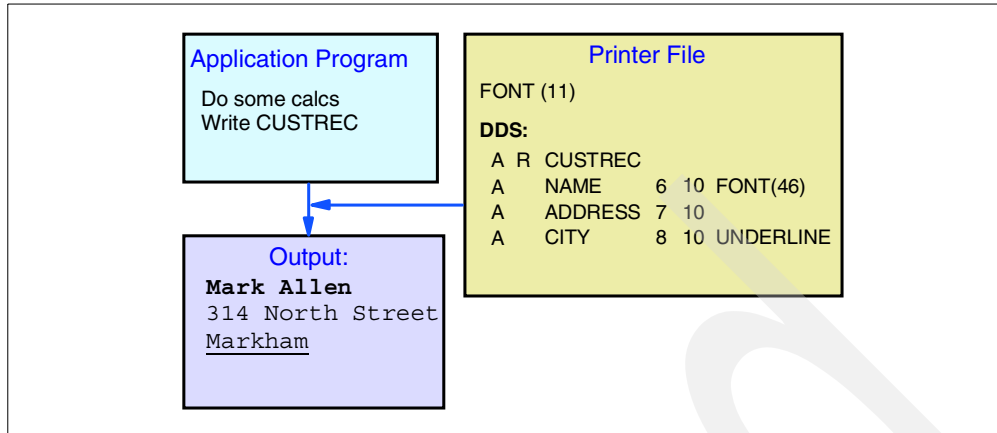

Figure 1. Using a printer file
Figure 1 shows you how a simple printer file with DDS can affect the format of the resulting output. The application program issues an instruction to write a record of data. Using the information in the printer file, the appropriate data stream commands are built into the resulting spooled file and the output will have the desired characteristics. In this example, the printer file was created specifying a default font 11 (Courier medium at 10 cpi). In the DDS, the keyword FONT(46) acts upon just the name field to cause it to print in Courier bold. An additional keyword, UNDERLINE, acts only upon the city field.